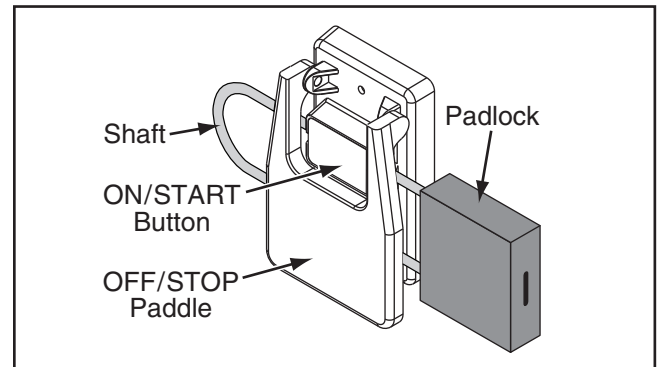

Figure 33. Padlock inserted through ON button.
6. Insert padlock shaft through ON button, as shown in **Figure 33**.